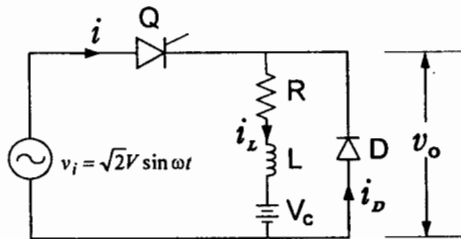

Figure 1: A Half-wave rectifier.
1. A half-wave controlled rectifier with a free-wheeling diode is shown in Figure 1. The thyristor, Q is fired at $\alpha = 40^\circ$ during each cycle. The rms value of the source voltage is 120 V. Consider $V_C = 48$ V, $L = 10$ mH and $R = 1.8 \Omega$.